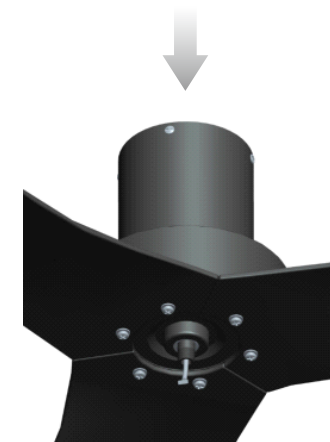

Fig 7.2
7.2 Repeat for the remaining blades. The installation of the blades is shown in the Fig 7.2.